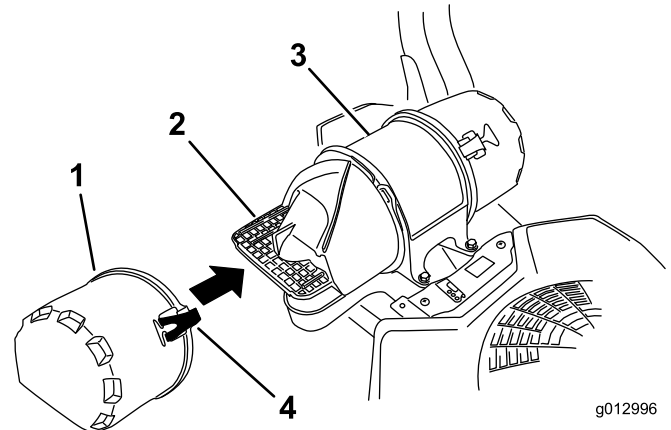

Figure 47
3. Release the latches on the air cleaner and pull the air-inlet cover off the air-cleaner body (Figure 47).
5. Install the air-inlet cover and secure it with the latches (Figure 47).